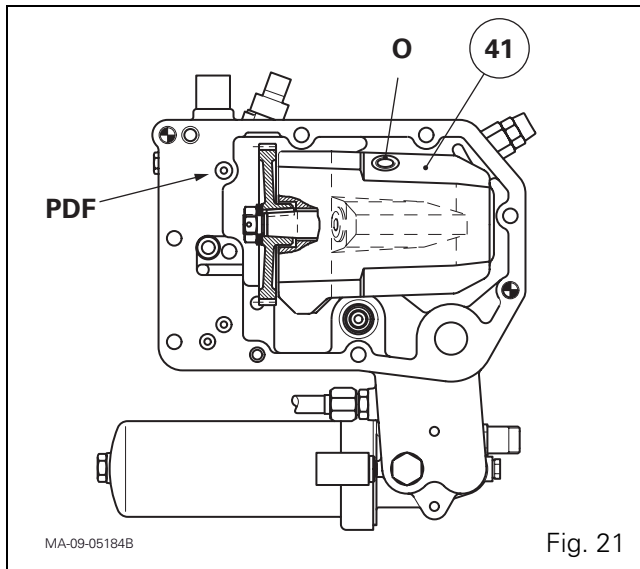

Fig. 21
24. Fill the variable displacement pump (41) with clean transmission oil through port O (Fig. 21).
25. Slide the cover plate onto the guide studs (G) previously screwed onto the intermediate housing (GPA30) or centre housing (GPA20 and GPA40).
The ball joints (5) are drilled to provide lubrication between the pads (7) and plate (6). The oil is then sent to the housing via port O (Fig. 21).